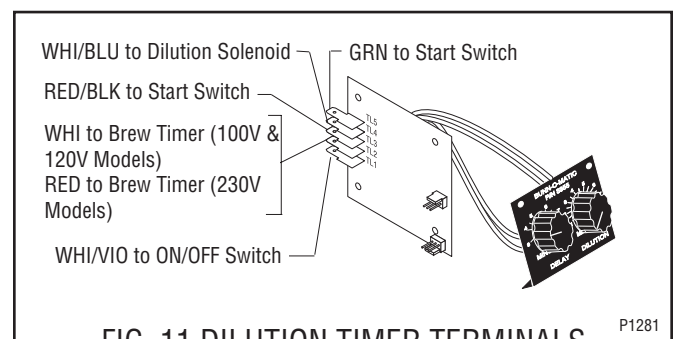

FIG. 11 DILUTION TIMER TERMINALS
5. Refer to Fig. 11 when reconnecting the wires.